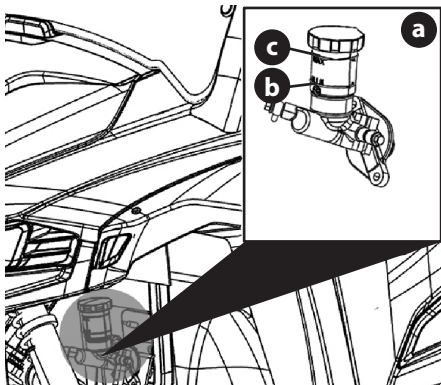

Figure 24
1. Check to see that the brake fluid level of the brake fluid reservoir (a) is up to the MIN (b) level (Figure 24).